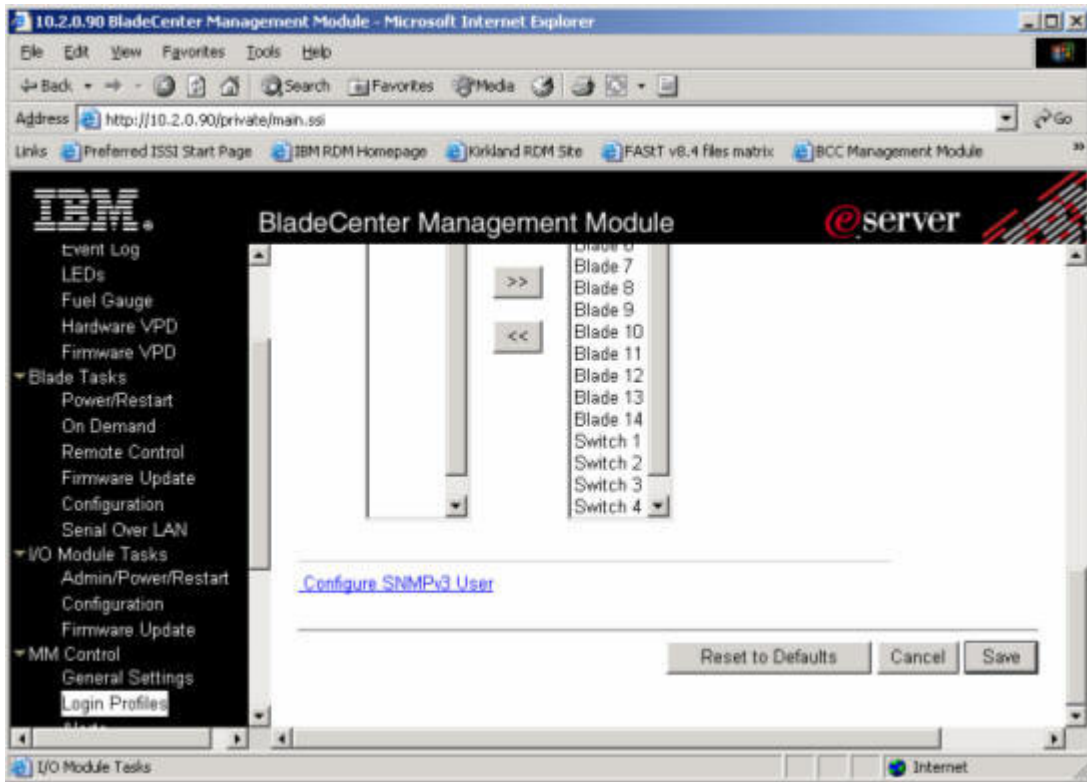

Figure 11. BladeCenter Management Module Login ID panel- Configure SNMPv3 User
9. Scroll to the bottom of the Login ID panel (Figure 11 on page 42), and click **Configure SNMPv3 User**.